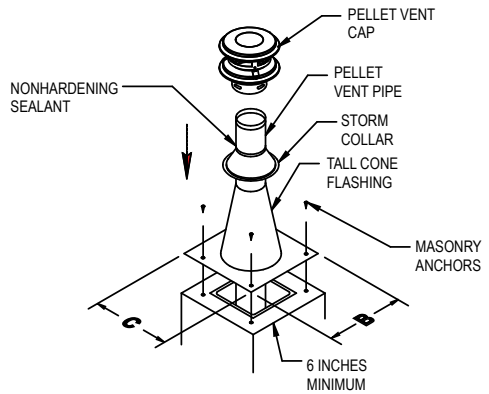

Figure 13
11. For the termination of the pellet vent, you will use a Tall Cone Flashing, and a Storm Collar. This will require 14 inches of pipe above the top of the masonry chimney. Pull the pipe up through the flashing to the desired height. Mark where the Storm Collar will go. Slip the Storm Collar down over the pipe, and affix it to the pipe with a 1/4"-long stainless steel sheet metal screw. (**Figures 13 & 14**). The Storm Collar will then support the entire vent system. Install the Cap. Seal the joint at the Storm